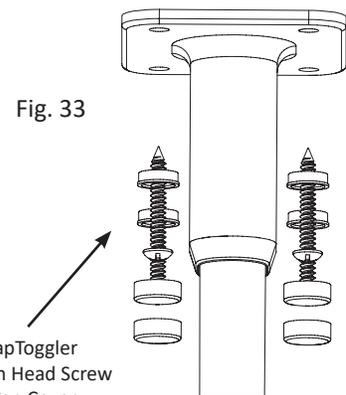

Fig. 33
- C. Place PRVC Ceiling Mount at pre-drilled hole locations and use #8 - 1/2" Pan Head Screw and Two Piece Cover Cap then tighten (Fig 33). Place white snap cap on screw head and push onto head of screw. The PRVC Ceiling Mount should now be secured to the drop-Ceiling and PRVC Ceiling Mount Board. Move to Step 22.